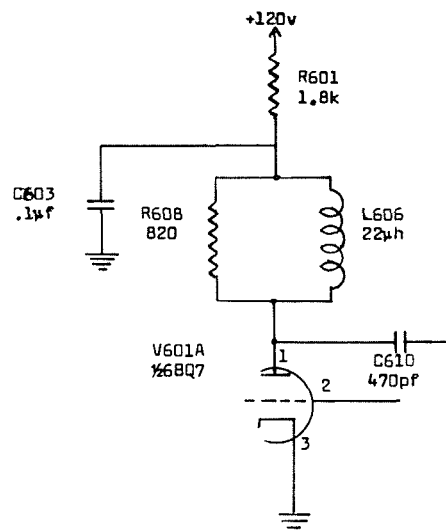

Figure 3. Type 524D/524AD Time-Mark Generator for serial numbers 1842 and below (partial schematic).
- Refer to Figure 3. Decouple the 120 v plate supply of V601A by adding a 1.8 k, 1 w, 10% composition resistor (Tek no. 304-182) and a 0.1 μ f, 500 v discap (Tek no. 283-008) as shown in Figure 3.